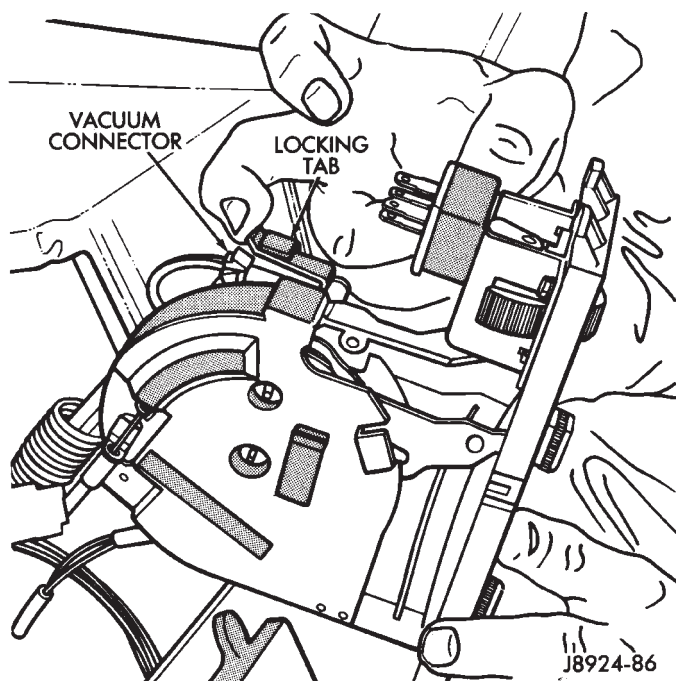

Fig. 6 Vacuum Hose Connector
- (7) Disconnect the vacuum hoses by releasing the locking tabs (Fig. 6).